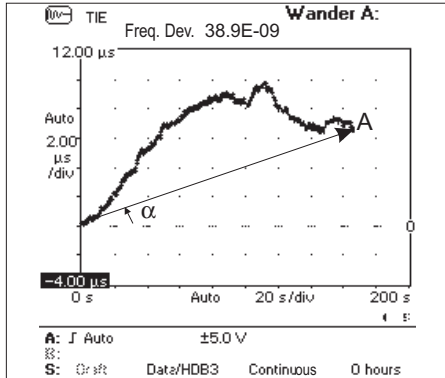

Figure 4-1 TIE graph with line for equivalent relative frequency deviation at point A.
Above the graph window there is a numeric field that is updated continuously each time the Wandermeter takes a new TIE sample. The field is designated "Freq. Dev.", and the numeric value indicates the momentary relative frequency deviation from the reference frequency. The value is calculated by using the expression $\tan(\alpha)$, where α is the angle between the x-axis and a line drawn from the origin of coordinates to the current (rightmost) measurement sample. See Figure 4-1.
- A typical TIE graph (Figure 4-1) gives a gradually lower relative frequency deviation as time passes. Momentary excursions of the TIE curve will be less and less visible in the numeric field. At the end of a long measurement this field presents a mean value that is normally close to zero. This means that the measured clock or data is locked to the system's PRC (ETSI)-clock.